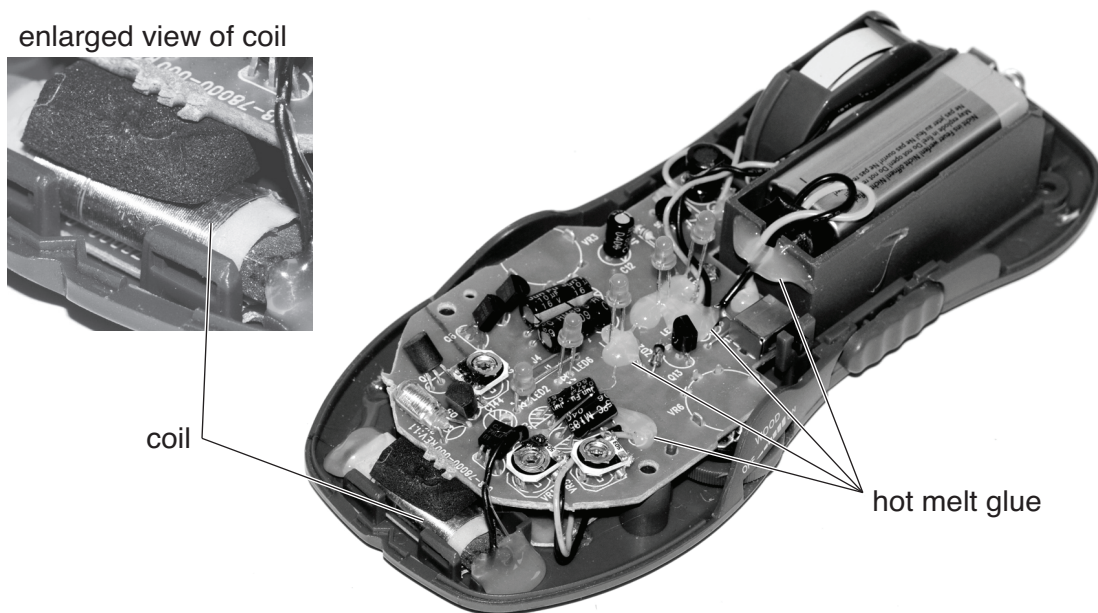

Fig. 6
- (c) Fig. 6 shows a view of the circuit board.